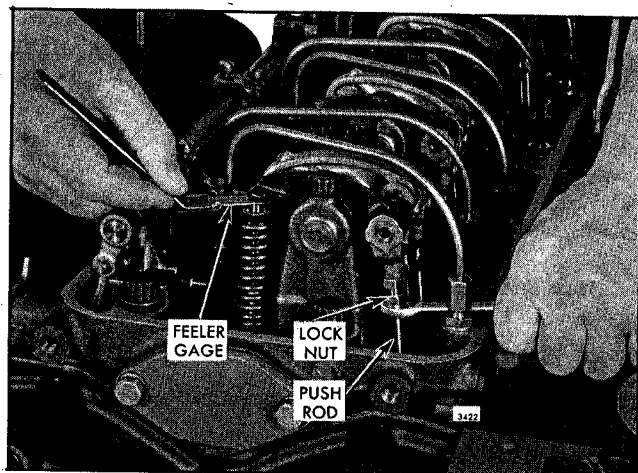

Fig. 1 - Adjusting Valve Clearance.
5. Place a .012" feeler gage, J 9708, between the valve stem and the rocker arm (Fig. 1). Adjust the push rod to obtain a smooth pull on the feeler gage.